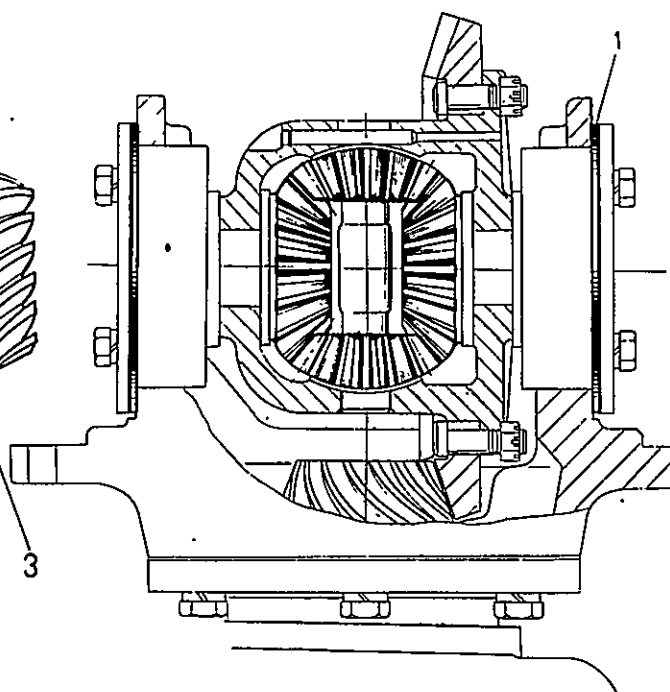

Fig. 4-18
- 2). Adjustment of the clearance of the differential assy bearing 7209 (Fig. 4-18)